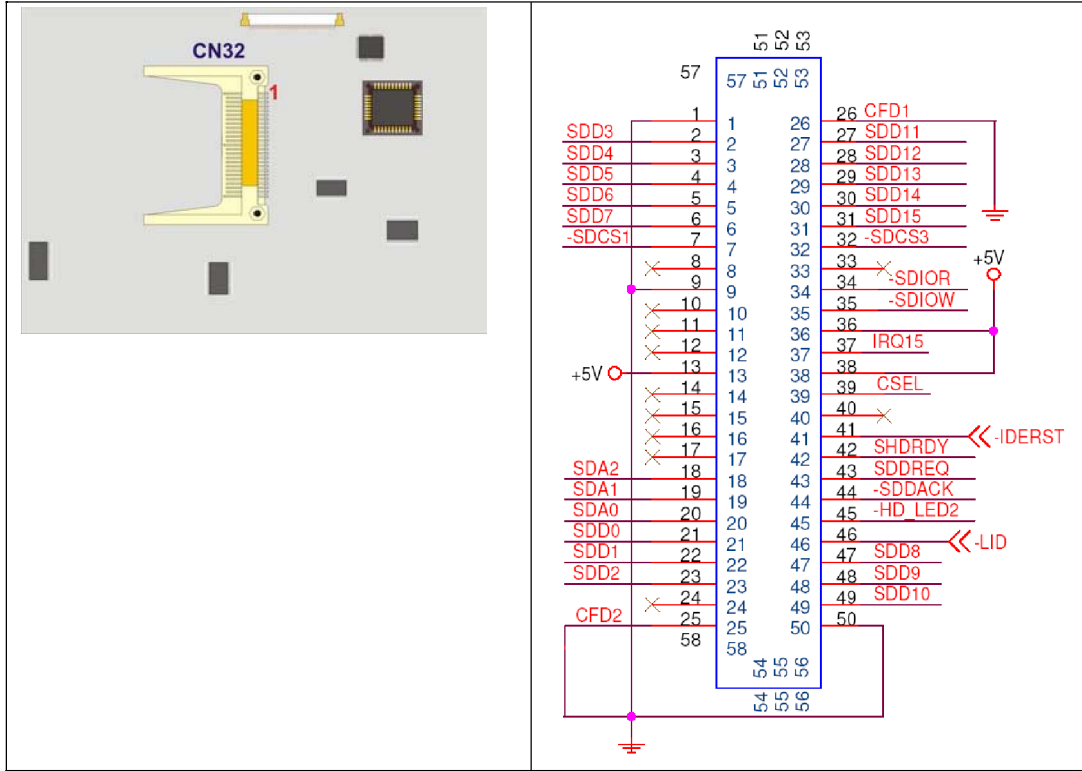

Figure 3-6: CompactFlash Connector Location
- CN Location: See **Figure 3-6**